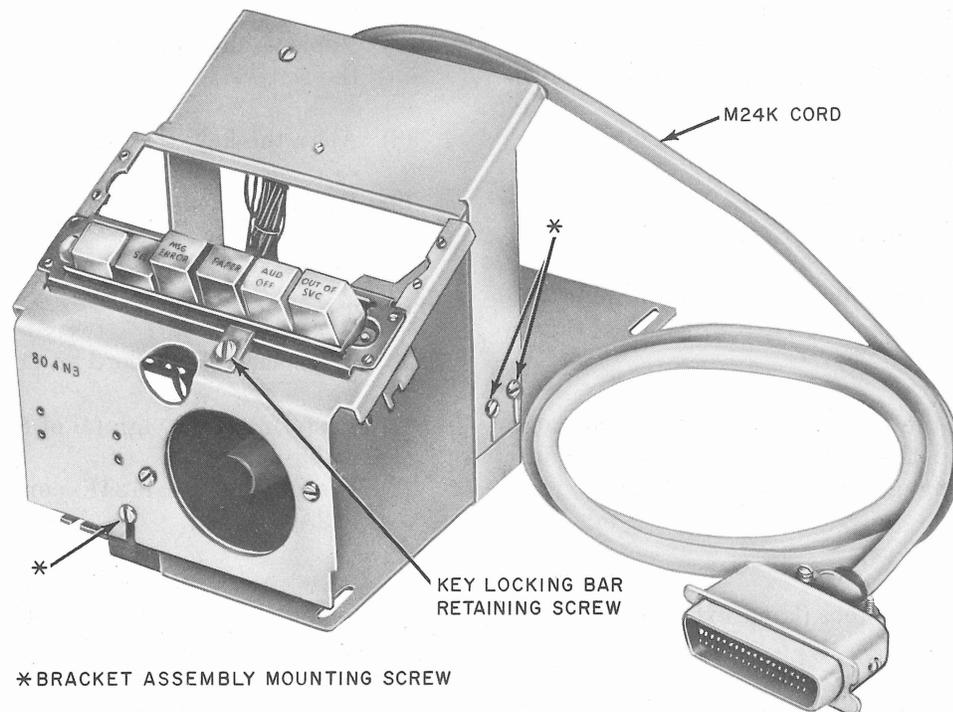

Fig. 11—DAS 804N3 Showing the Mounting Screws and Key Retaining Screw
- (1) Loosen the key locking bar retaining screw (Fig. 11) on DAS 804N3.
- (2) Lift the 635K2 key sufficiently to clear the bracket.
- (3) Release spring-retaining clips which hold the plug to the key and remove plug.
- (4) Connect plugs to the 635K2 key to be installed and lower the key into the bracket.
- (5) Seat the 635K2 key in the keying pins and replace the key locking bar retaining screw.
- (1) Remove DAS 804N-type by removing the two screws (with an Allen wrench) from the TTY pan on the bottom right-hand side.
- (2) Loosen, but do not remove, the five bracket assembly mounting screws (Fig. 11).
- (3) Lift bracket assembly sufficiently to gain access to TS B.